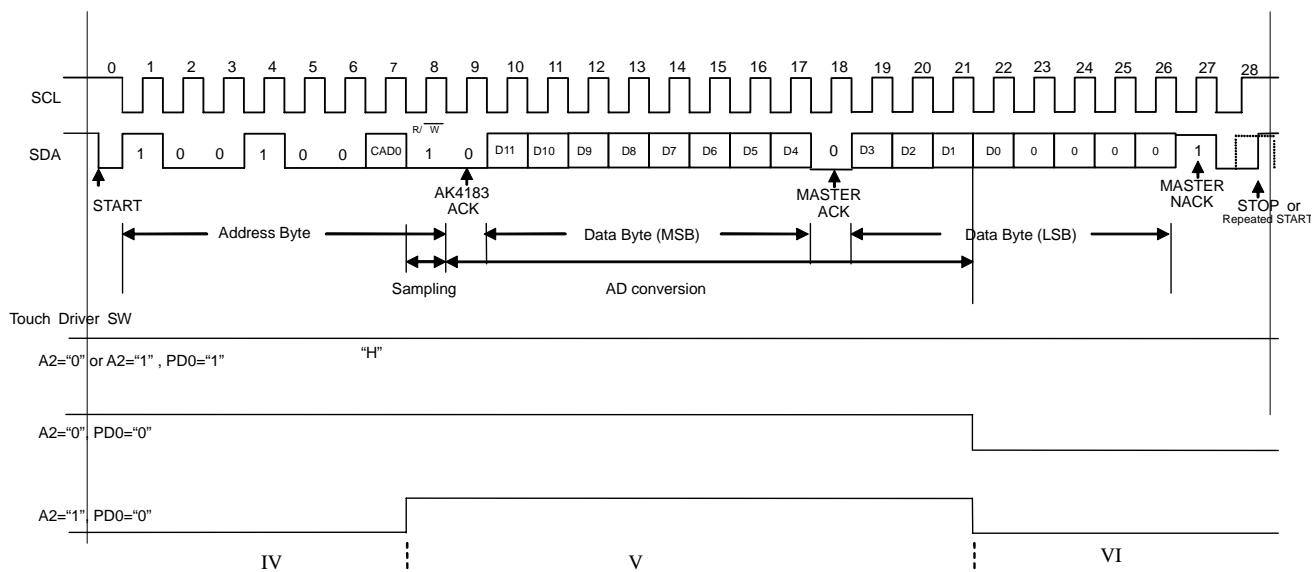

Figure 14 Read data Sequence
■ READ Operation Sequence (Figure 14)
The transition of PENIRQN is related to PD0 bit. PD0 bit is updated as shown below. (Please see “power-down control” for the detail. Once the control command with PD0= “1” is sent the pen-interrupt function is disabled. The clock number under the write and the read operation refer to Figure 13 and Figure 14.